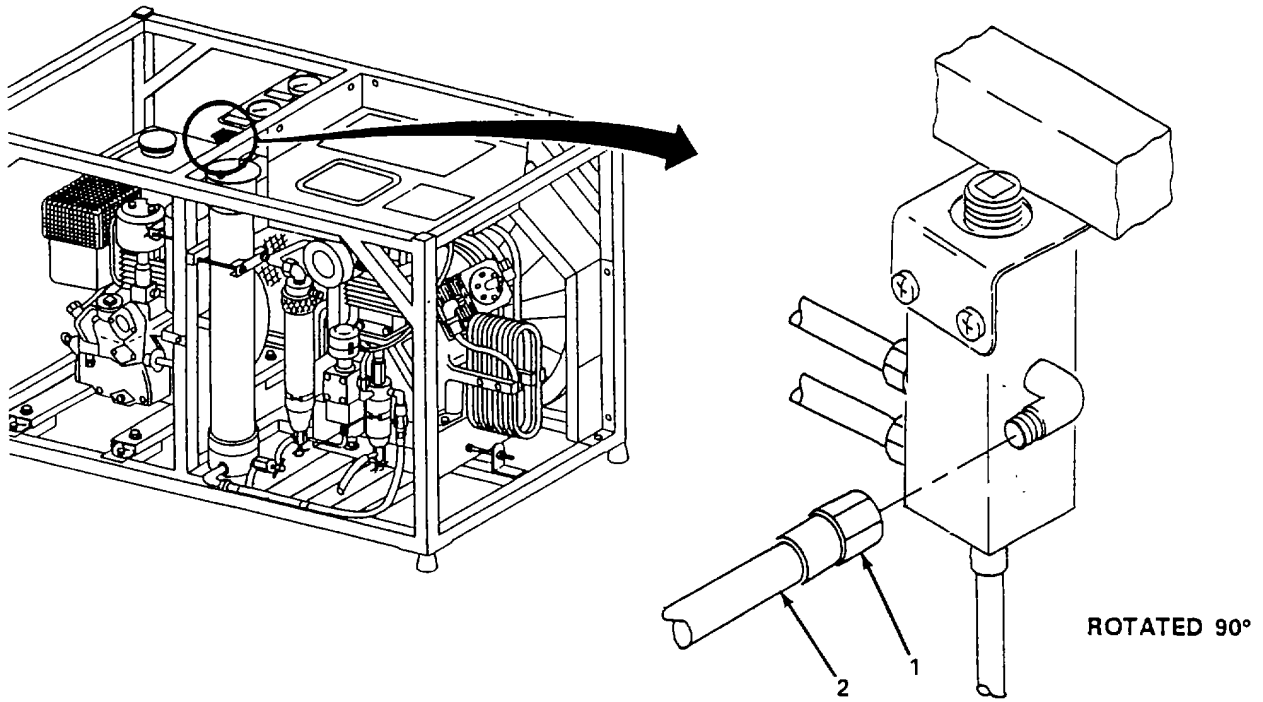

Figure 5-52. Air Tank Charging Whip Assembly, Replace.
a. *Replace*. (figure 5-52)
- (1) Loosen connector nut (1) and remove charging whip (2).
- (2) Install new charging whip (2) and tighten connector nut (1).